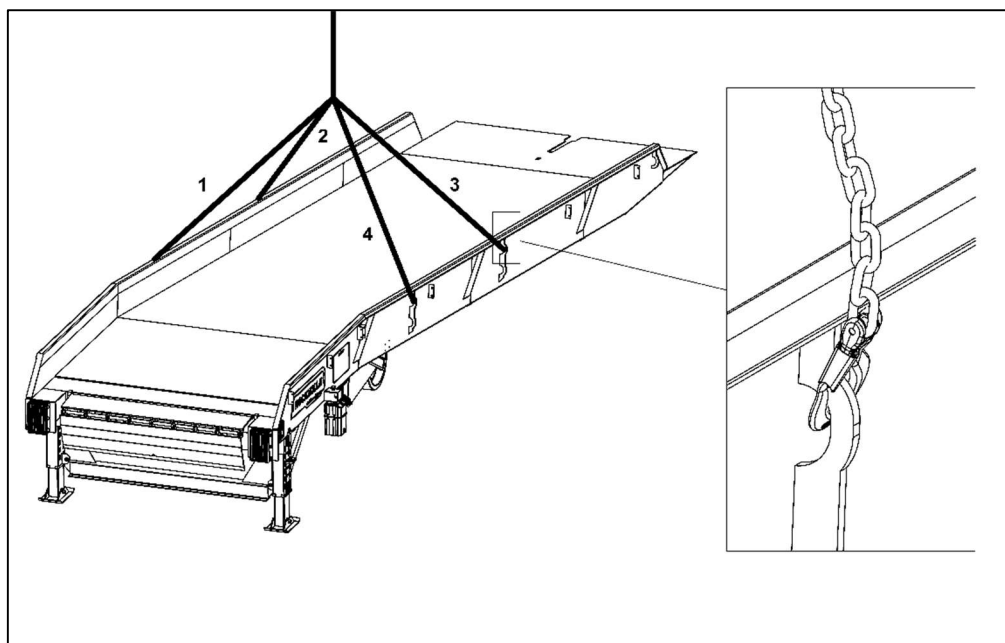

Figure 2a. Offloading with a Crane
- CRANE (PREFERRED):** Attach chains on the four lift points located on the sides of the loading dock (Figure 2a). Slowly lift the loading dock from the trailer, move it to the desired location, and carefully place it on the ground.